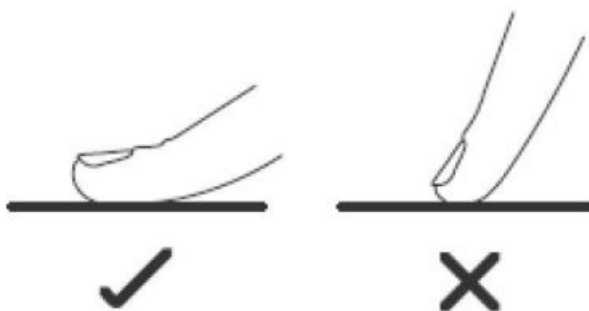

Fig. 6
- Use the entire fingertip, not just the tip, to operate the touch buttons (Fig. 6).